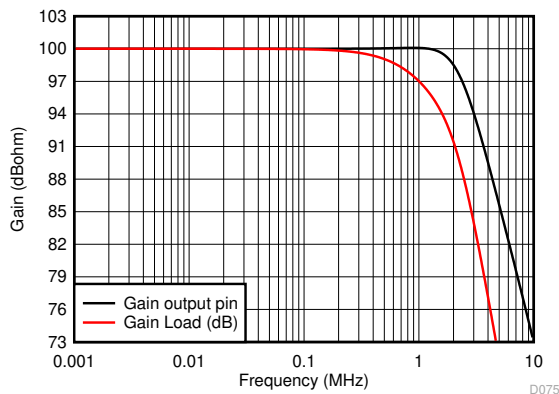

Figure 9-8. Small-Signal Response for 100-k Ω Transimpedance Gain
- Assume a nominal source capacitance value of 100 pF. This normally comes from the capacitance versus reverse bias plot for the photodiode. No reverse bias is illustrated in Figure 9-8, but the current source is typically a back biased diode with a negative supply on the anode and the cathode connected to the op amp inverting input. In this polarity, the signal current sinks into the diode and raises the op amp output voltage above ground.
Implementing this design and simulating the performance using the TINA model for the response to the output pin and to the final capacitive load shows the expected results of Figure 9-8. Here, the exact 2.2-MHz flat Butterworth response to the output pin is shown with the final single pole rolloff at 1 MHz at the final 2.2-nF capacitor.